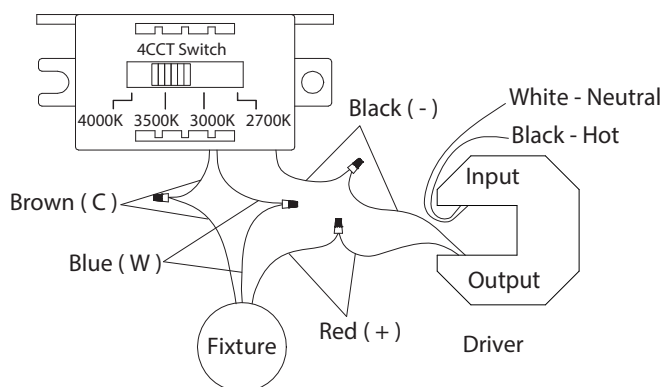

Fig. 4 Switch
7. Connect the driver's input wires to junction box wires as shown (Fig. 4). Make sure that all wire connectors (A) are secure. If your outlet junction box has a green or bare copper ground wire, connect the driver's ground wire to it. Otherwise, connect the fixture's ground wire directly to the back plate using the GND screw provided. After wires are connected, tuck them carefully inside the junction box.
8. Secure the fixture to the backplate plate using the mounting screw (B).